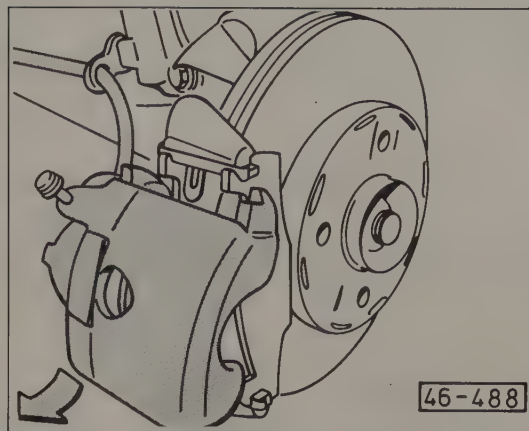

Fig. 5-2. Brake caliper being removed from pad carrier. Slide caliper out from bottom first (arrow).
2. Using a hex wrench, remove the two brake caliper mounting bolts, the spacers, and the sleeves. Push the caliper up slightly and swing it out from the bottom, as shown in Fig. 5-2, to remove it from the pad carrier. Suspend the caliper from the car body with a stiff wire to avoid stretching the brake hose.